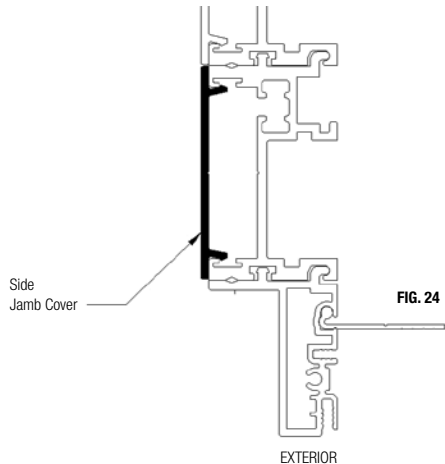

FIG. 24
- D) Make sure the track cover is tight against the side jamb and gently insert it in place. (Fig. 24)